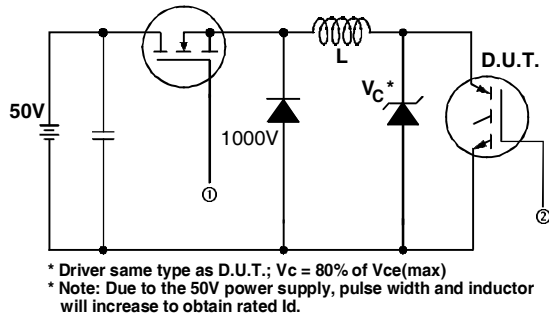

Fig. 13a - Clamped Inductive Load Test Circuit
- ② $V_{CC} = 80\%(V_{CES})$, $V_{GE} = 20V$, $L = TBD \mu H$, $R_G = 5.0\Omega$. (See fig. 13a)
- ③ Repetitive rating; pulse width limited by maximum junction temperature.
- ④ Pulse width $\leq 80\mu s$; duty factor $\leq 0.1\%$.
- ⑤ Pulse width $5.0\mu s$, single shot.